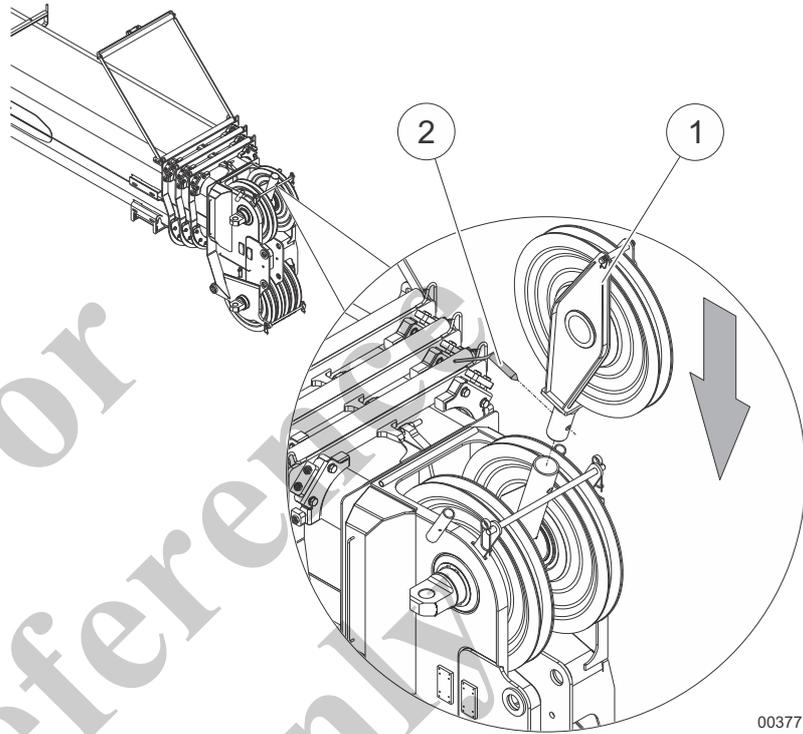

Fig. 235 Attaching the deflection sheave
- 9 Insert the deflection sheave (1) in Fig. 235 into the holder on the telescopic boom and secure it with the bolt (2) in Fig. 235.